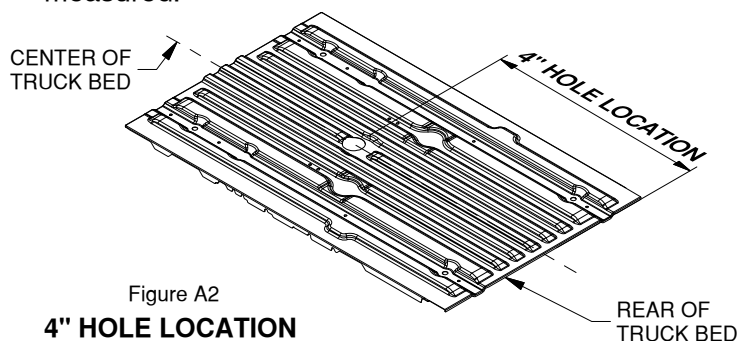

Figure A2
- 5. Mark the 4" hole location.** Using a tape measure hooked over the rear edge of the bed (at tailgate end), measure the location for the hole as shown in Figure A2. Next, locate the center of the bed by measuring the distance between the wheel wells and dividing by two. The center of the hole will be at the intersection of the center of the bed and the first distance measured.